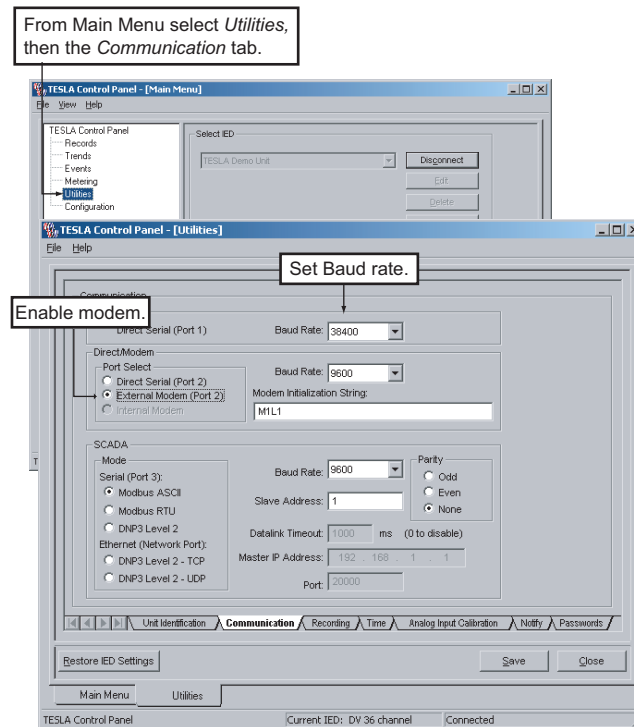

Figure 3.8: Communications Setup Utility
- Internal modem configuration is done in the same way as for an external modem. Modem Initialization String which is "M0" for internal modems (see Figure 3.8: Communications Setup Utility on page 7).